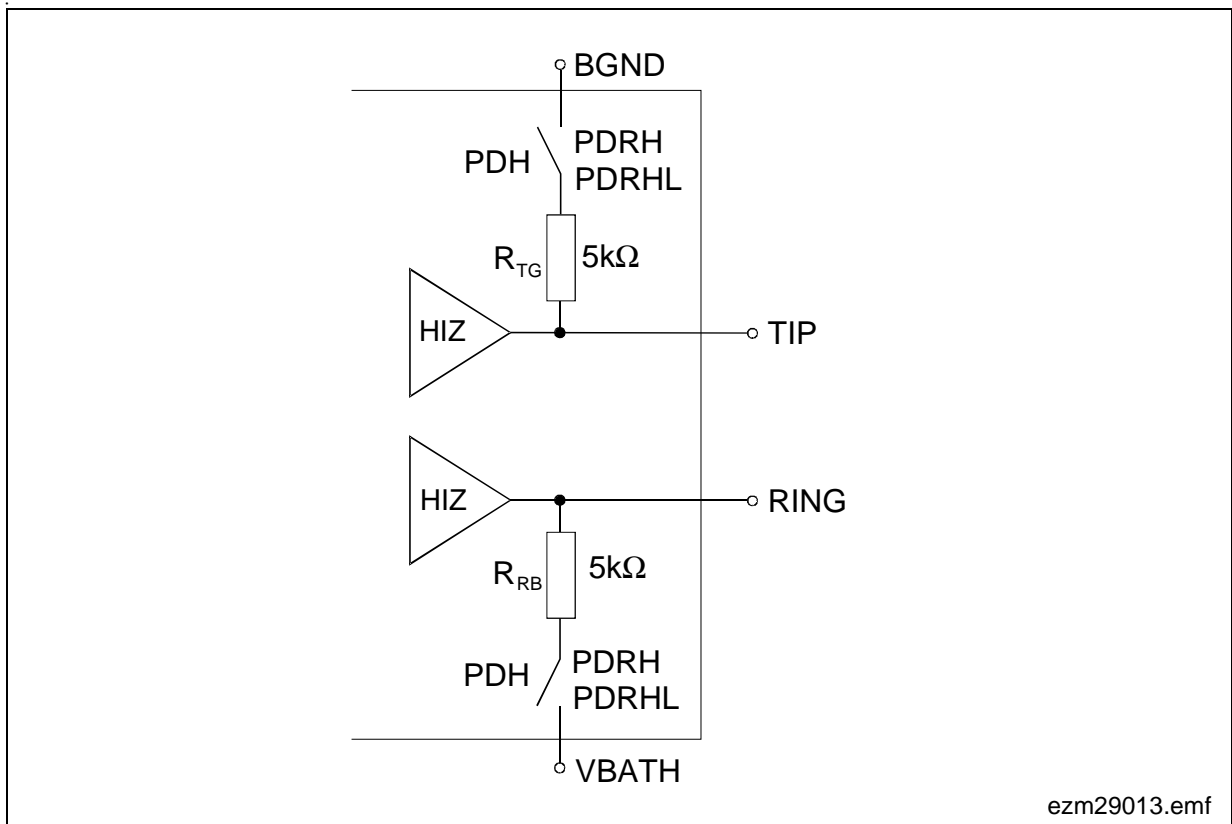

Figure 5 TIP and RING Impedances in Power Down Modes
With respect to the output impedance of TIP and RING, three Power Down modes have to be distinguished (see Figure 5):
**PDRH** is intended to reduce the power consumption of the linecard to a minimum by switching off the SLIC-S/-S2 completely. To allow off-hook detection, PDRH provides a connection of 5 k $\Omega$  each from TIP to  $V_{BGND}$  and RING to  $V_{BATH}$ , respectively, while the output buffers show high impedance (see Figure 5). The current through these resistors is sensed and transferred to the IT pin for off-hook supervision.